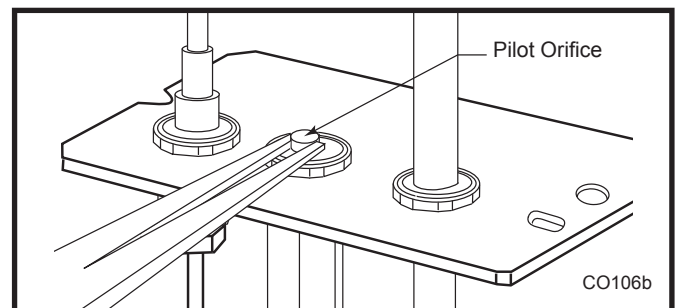

Fig. 56 Remove pilot orifice.
- Remove pilot orifice with needlenose pliers. (Fig. 56) **NOTE:** Use a wrench to hold pilot tube in place while removing the orifice.
2. Lift the Stove Front up and then swing the bottom out to disengage it from the heater shell. (Fig. 56)
1. Remove the Front, Glass Frame and Glass Panel. (Figs. 56 & 57) Remove the old gasket. Use a razor blade to separate the glass and gasket from the frame, and to clean the glass of any remaining cement or bits of gasket. Use a cold chisel if necessary.